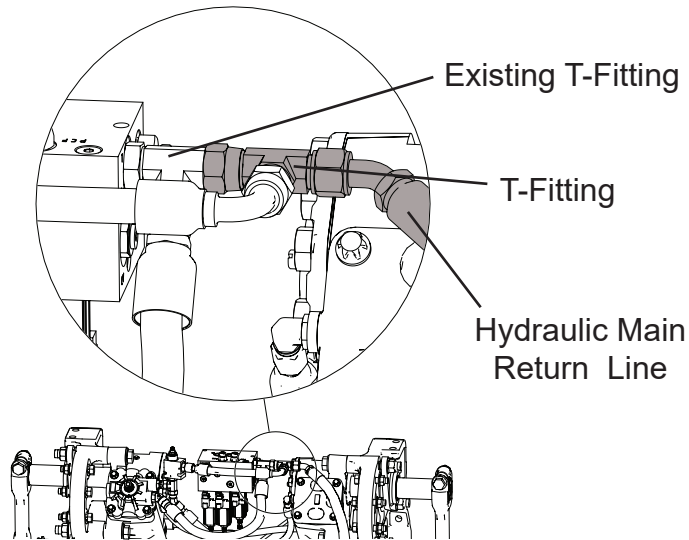

Figure 4
13. Install T-fitting (A000D112) to existing T-fitting. Orient T-fitting as shown in Figure 4.